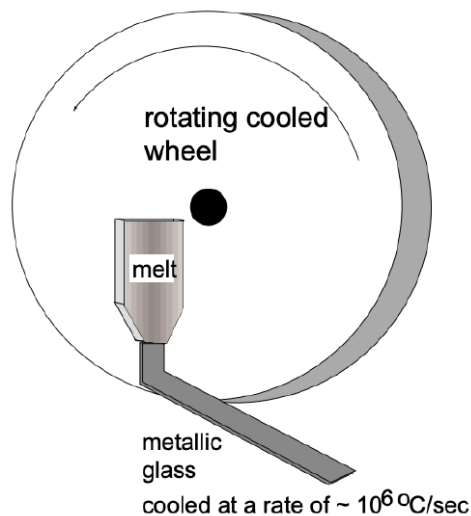

Figure 3 Production of metallic glass by melt spinning
The existence of metallic glasses shows the generality of the glass-forming process. In addition, the physical picture in this case is especially simple. Even with the highest presently attainable cooling rates (up to  $10^7$  °C/s), no "pure" metal has yet been obtained in a glassy state. However, if the liquid is an alloy of two (or more) metals whose atoms differ greatly in size, the crystallization process is more difficult and can be prevented in many instances by extremely rapid cooling of the melt ( $10^6$  °C/sec). The two experimental techniques for rapid cooling are (1) propelling a liquid drop at high velocity and "splating" it against a cooled copper surface, (2) flattening a liquid drop between a piston and an anvil or between two rolls and (3) "spinning" the melt by transferring it in a continuous mode onto a rapidly rotating, cooled wheel (fig. 3). X-ray patterns of the solidified alloys are similar to those of liquid metals - this and other evidence suggest that they are "amorphous", that their structure is that of a glass.